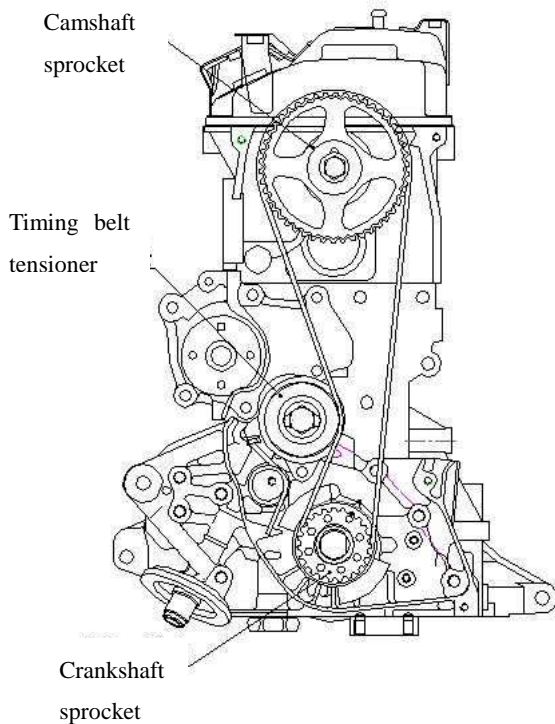

Fig.4-16
- d Loosen the tensioner pulley mounting bolts by 1/4 to 1/2 of a turn and allow the tensioner spring to apply tension to the timing belt, see Fig.4-16.